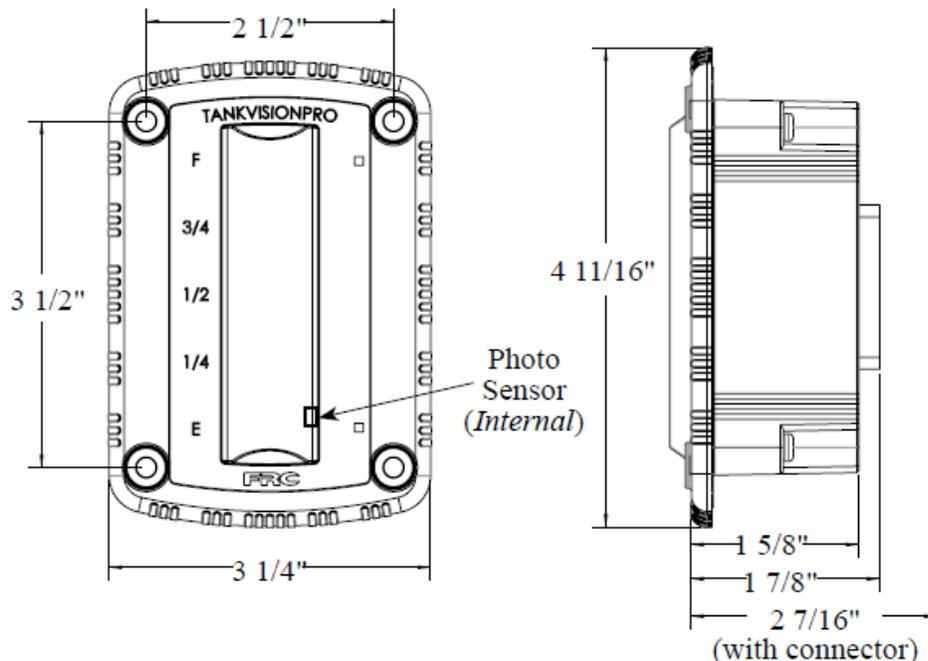

Figure 2: Display Module Dimensions
1. Measure and mark mounting location for display module panel cutout and mounting screw holes. Make sure there is a clearance behind the panel for the display and cables before cutting holes. Refer to Figure 2 below.
2. Cut out a 4" by 2 1/8" hole and drill four (4) holes (clearance or tapped) for 10-32 mounting screws.
3. Place Display Module in position and secure with four (4) screws.